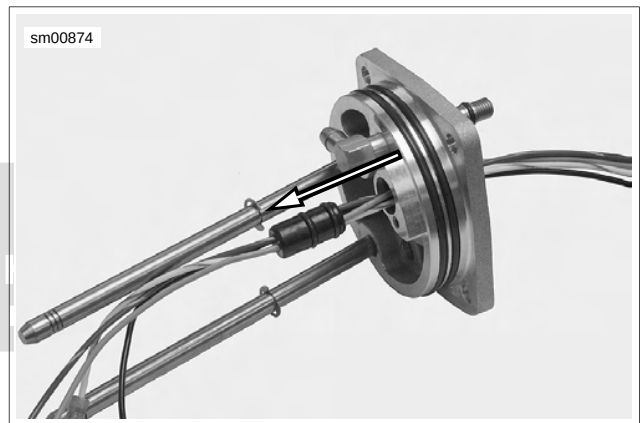

Figure 4-37. Wire Harness Removal Direction
6. See Figure 4-37. From outer side of fuel pump assembly, push wire harness through assembly.